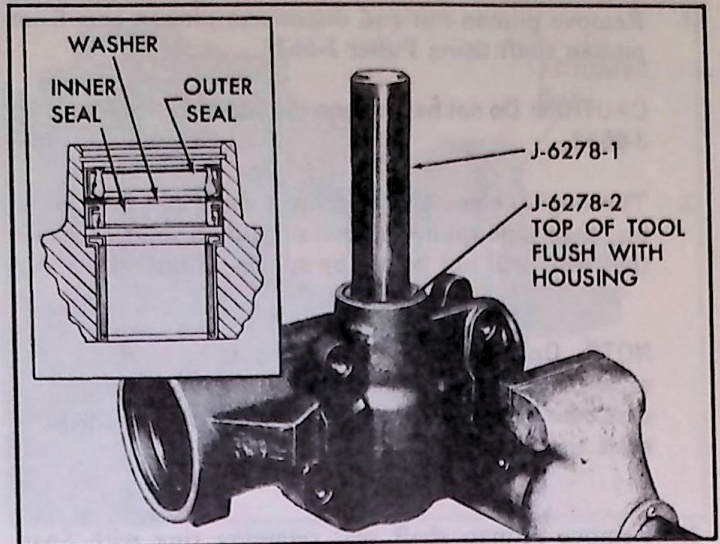

Fig. 52—Installing Pitman Shaft Seals (Bench Overhaul)
- b. Drive the seals into the housing until the top of Adapter J-6278-2 is flush with the housing (fig. 52).
- d. Reinsert Tool J-6278 with Adapter J-6278-2 and continue driving the seals until the retaining ring seats in its groove (Refer to Inset, Figure 52), then remove the tool and adapter.